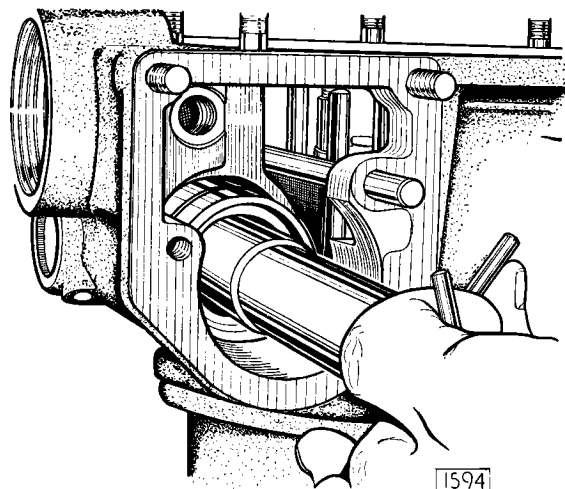

Fig. 42. Extracting the accumulator piston housing (Tool No. L.182 or L.216).
2. The accumulator spring or springs in the instance of the 3.8 litre model, followed by the piston housing assembly and piston can now be withdrawn (see Fig. 42).